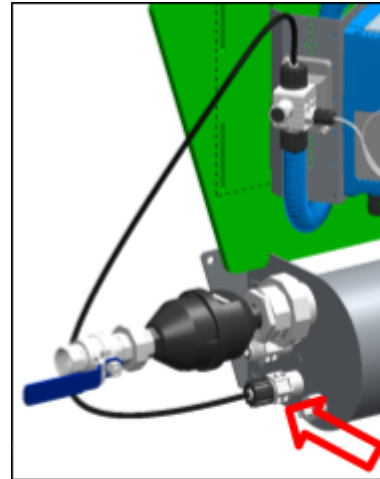

Figure 35.
8. Installation: Screw the injector onto the left side of the mixing tank at "DioClean FP 1-G." See Figure 35.
9. Connect the black hose from the flow control to the injector you just installed (see Figure 35).